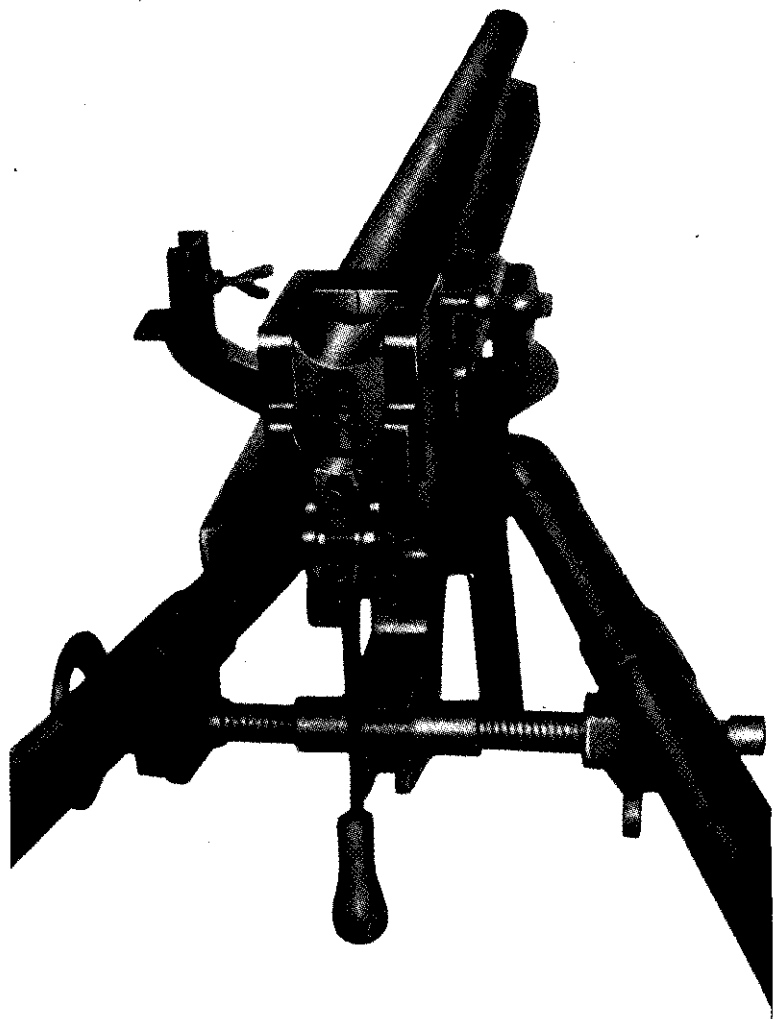
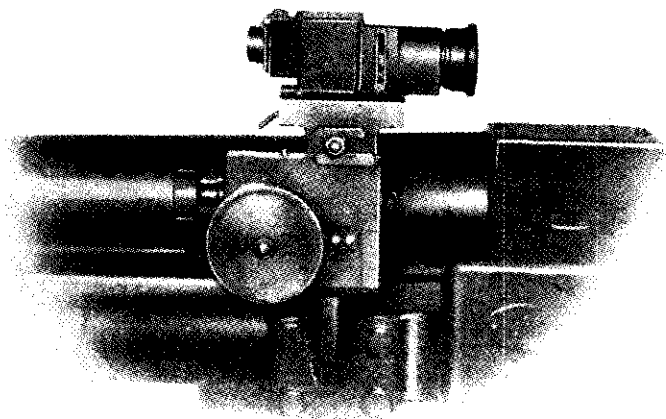

Figure 122.—Close-up of breech of Model 11 (1922) 37-mm gun.
Figure 123.—Telescopic sight mounted on Model 11 (1922) 37-mm gun.
(1) *General*.—The barrel and breech of the Model 11 (1922) 37-mm gun form one integral part (fig. 122). The breech has a vertical sliding-wedge breechblock which can be operated either manually or automatically. The standard sighting device on this weapon is a simple telescopic sight (fig. 123).